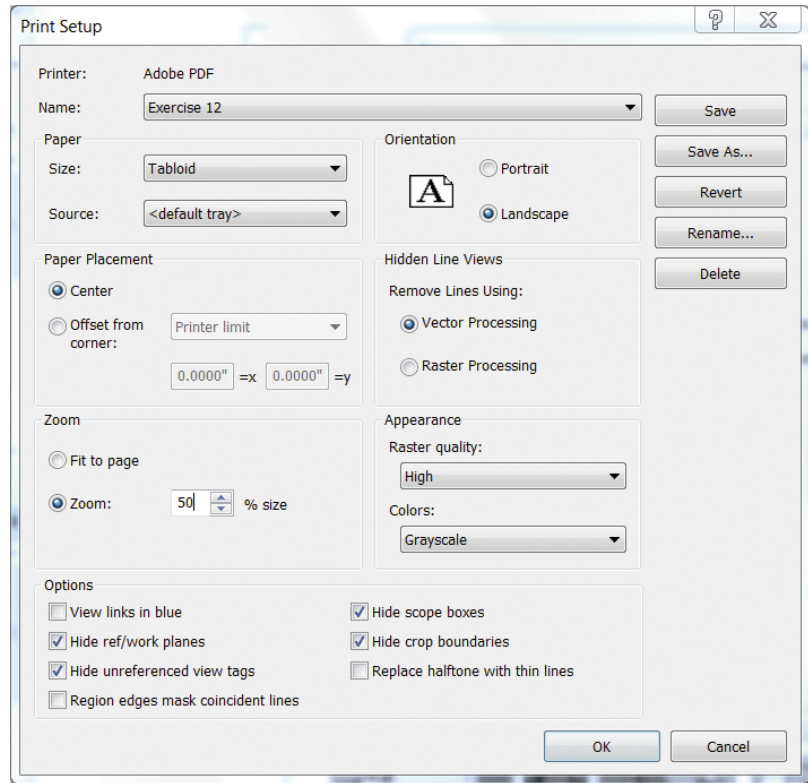

FIGURE 12.30 Print Setup dialog
13. Once your options are set, click the Save As button, and name the current setup **Exercise 12 - Half Size**; then click OK. Like the sheet set, you can reuse these settings on future prints. Your Print Setup dialog should look like Figure 12.30. Click OK to close this dialog.